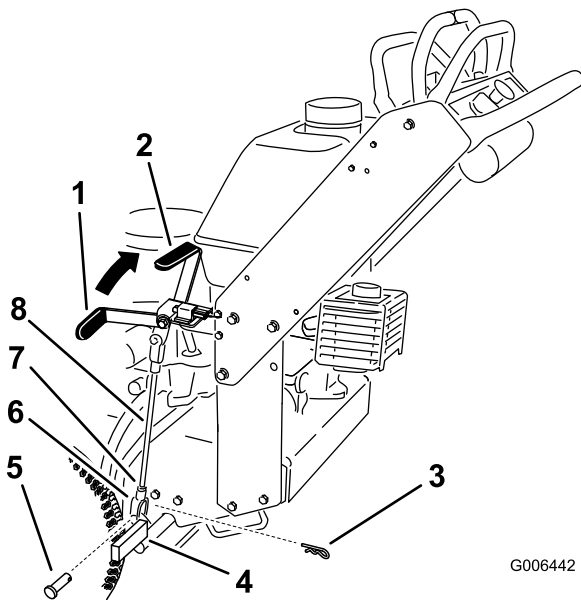

Figure 36
Note: When the brake is engaged, the brake handle should be in the 1 o'clock position (Figure 36).
5. Loosen the top and bottom jam nuts (Figure 36).
6. To adjust the brake, remove the hair pin cotter and clevis pin from the lower brake lever (Figure 36).
- To loosen the brake, shorten the rod between the yokes (Figure 36).
8. Secure the yoke to lower brake lever with the hair pin cotter and clevis pin (Figure 36).
9. Tighten the top and bottom jam nuts (Figure 36).